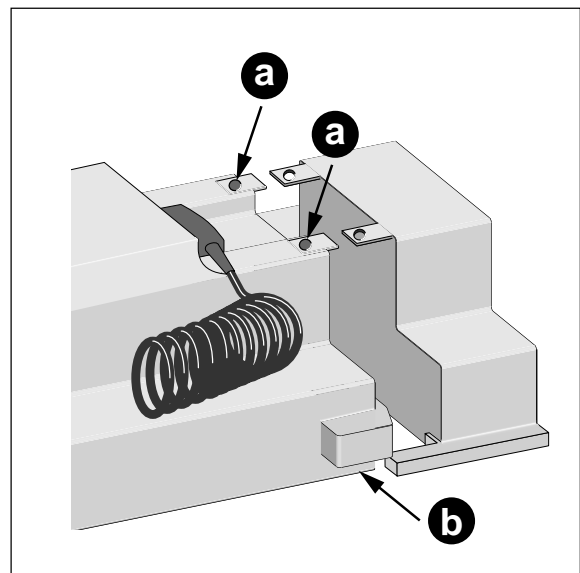

Figure 16-2. Mounting the AC power adapter
- Remove the two legs (a, Figure 16-2) and the screws (b) on the underside.